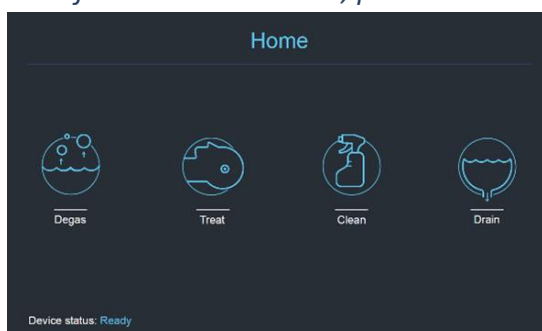

Fig. 1A: Water System Touchscreen “Home” Menu
- ☐ On the Water System home screen (Figure 1A), press the “Clean” option